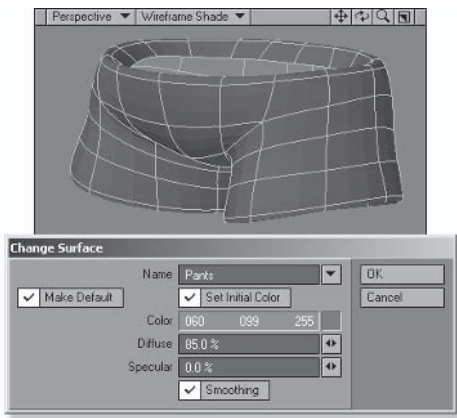

Figure 5.5-22. Pants surface.
9. Create a new surface for the pants, called **Pants**, using the settings in Figure 5.5-22.